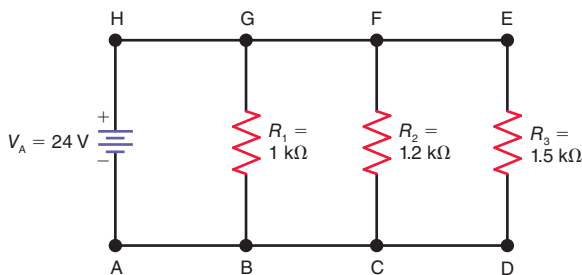

Figure 6-19
- 6.12 In Fig. 6-19, solve for I_1 , I_2 , I_3 , and I_T .
- 6.13 In Fig. 6-19, how much is the current in the wire between points